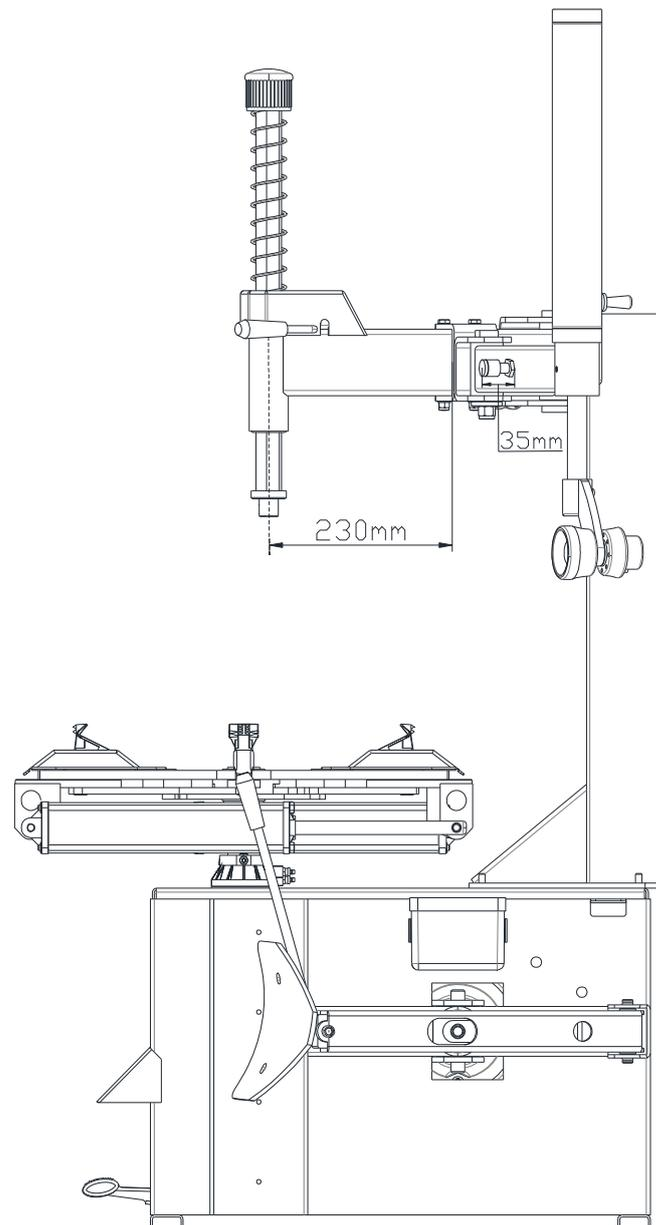
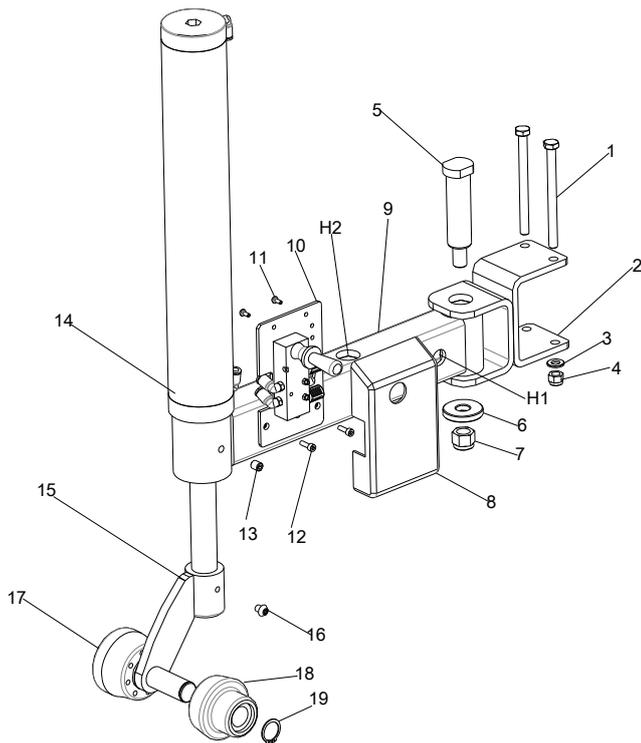

Fig 3
Fig 4
Figure 3 shows the installation position; please choose the suitable space to install the 098D auxiliary arm to the swing arm.
The position of the 098D auxiliary arm which installed in the swing arm is not fixed; the user can adjust the position according to the actual needs. According to the manufacturers' calculation and analysis, it is recommended that the distance between the mounting bracket and the center line of the hex end is the best 230mm, and the positioning block is the best 35mm. (shown as fig 3)
- 2) Install the mounting bracket 2 of the 098D auxiliary arm on the swing arm which is 260mm from the centerline of the hexagon; (fig 3 and fig 4)
1. Disconnect the machine from electric power supply and pneumatic power supply, dismount the two screw 11 in fig 4, remove the rise-fall control valve protect cover;